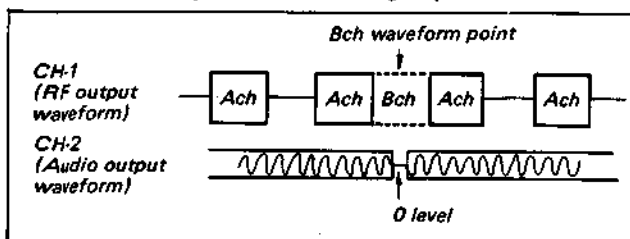

Fig. 3-52. Position adjustment of ACE assembly (1)
2. Play back the 1 MHz segment of alignment tape KR5-1J. (See Fig. 3-52).
3. Set the tracking control to the center, detent, position and confirm that the output waveform level is maximum and the 0 level point of the audio signal appears at the Bch waveform point as shown in Fig. 3-52. If the specification is not satisfied, perform the following Step 4.
6. Loosen the two position adjusting screws of the ACE head and adjust the cut-out section of section A for maximum RF output waveform and a 0 level of audio signal at the Bch waveform point. (See Fig. 3-52.)